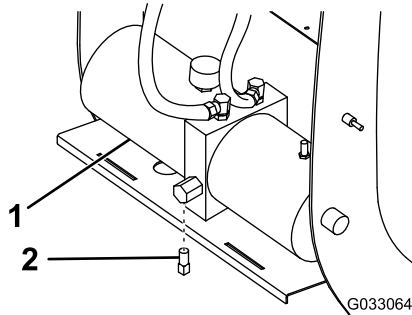

Figure 40
5. Clean the area around the drain plug (Figure 40).